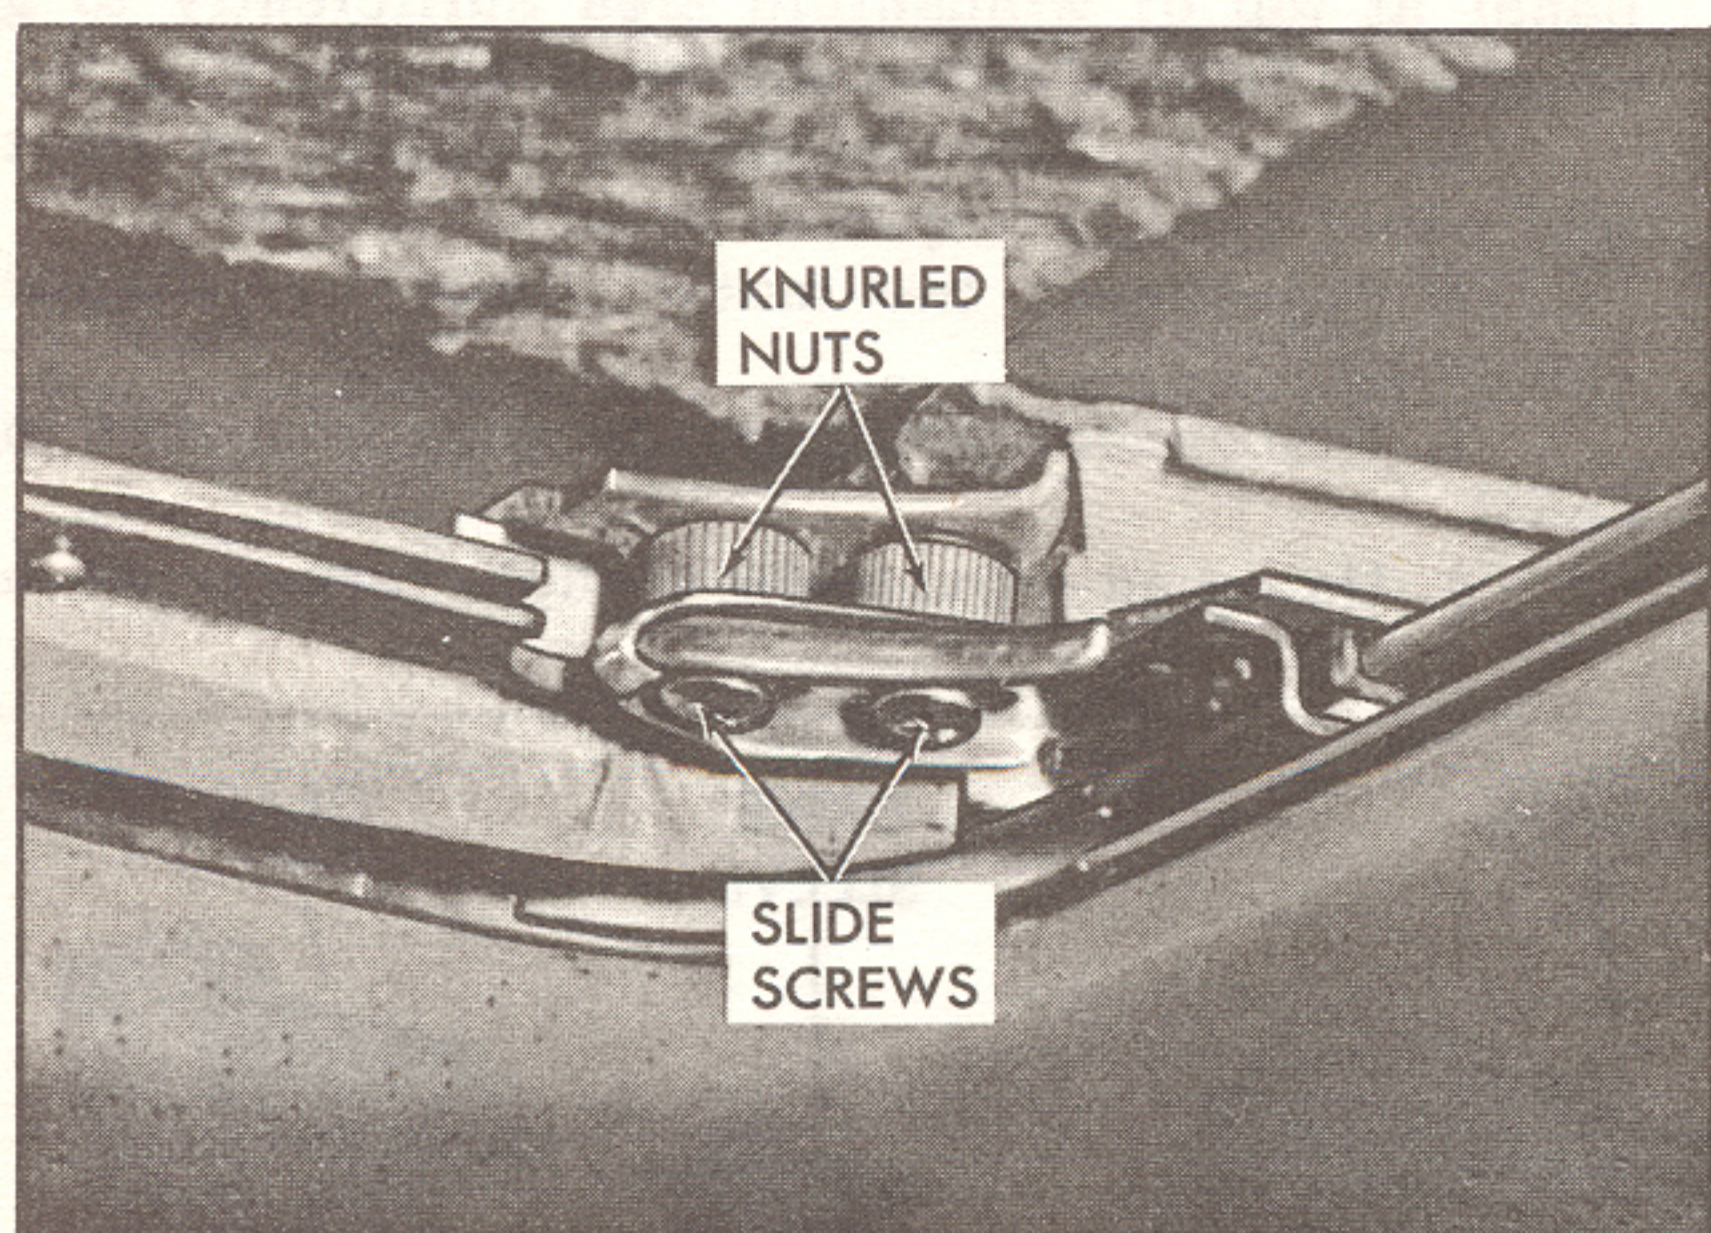

Fig. 10. Front Panel Alignment
1. To obtain a flush fit with the roof on one side of front of roof panel, loosen both front slide screws, Fig. 10.
2. Turn knurled nuts clockwise to raise roof panel and counterclockwise to lower panel. Fig. 10.